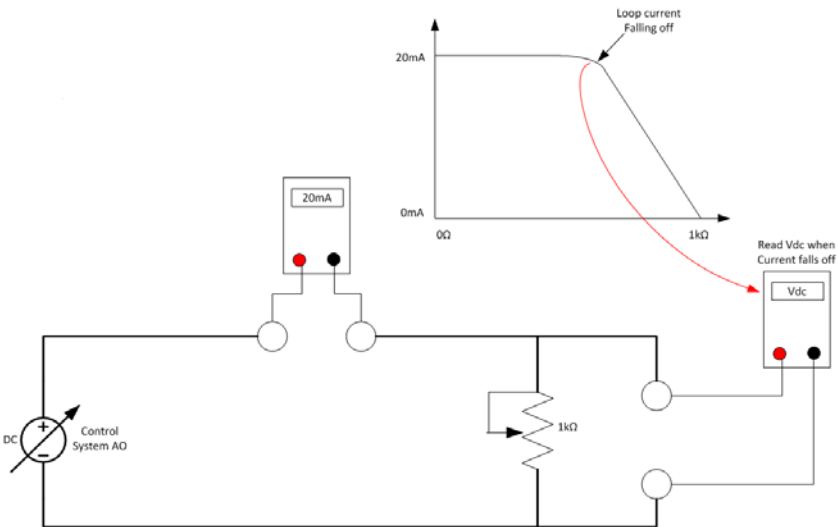

Figure 36 Compliance Voltage Test Set-Up
1. Configure a test set-up as in Figure 36.